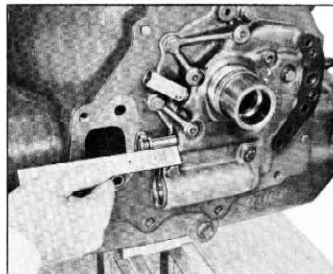

Fig. 133—Setting Manual Valve in Reverse Position
2. Set manual valve so end of valve protrudes 1½" from face of valve body (fig. 133). This places valve in reverse position.